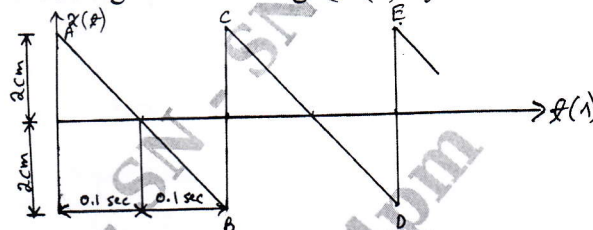

Fig.Q.2(b)
- b. Formulate the periodic motion given in the Fig.Q.2(b) by harmonic series. (10 Marks)